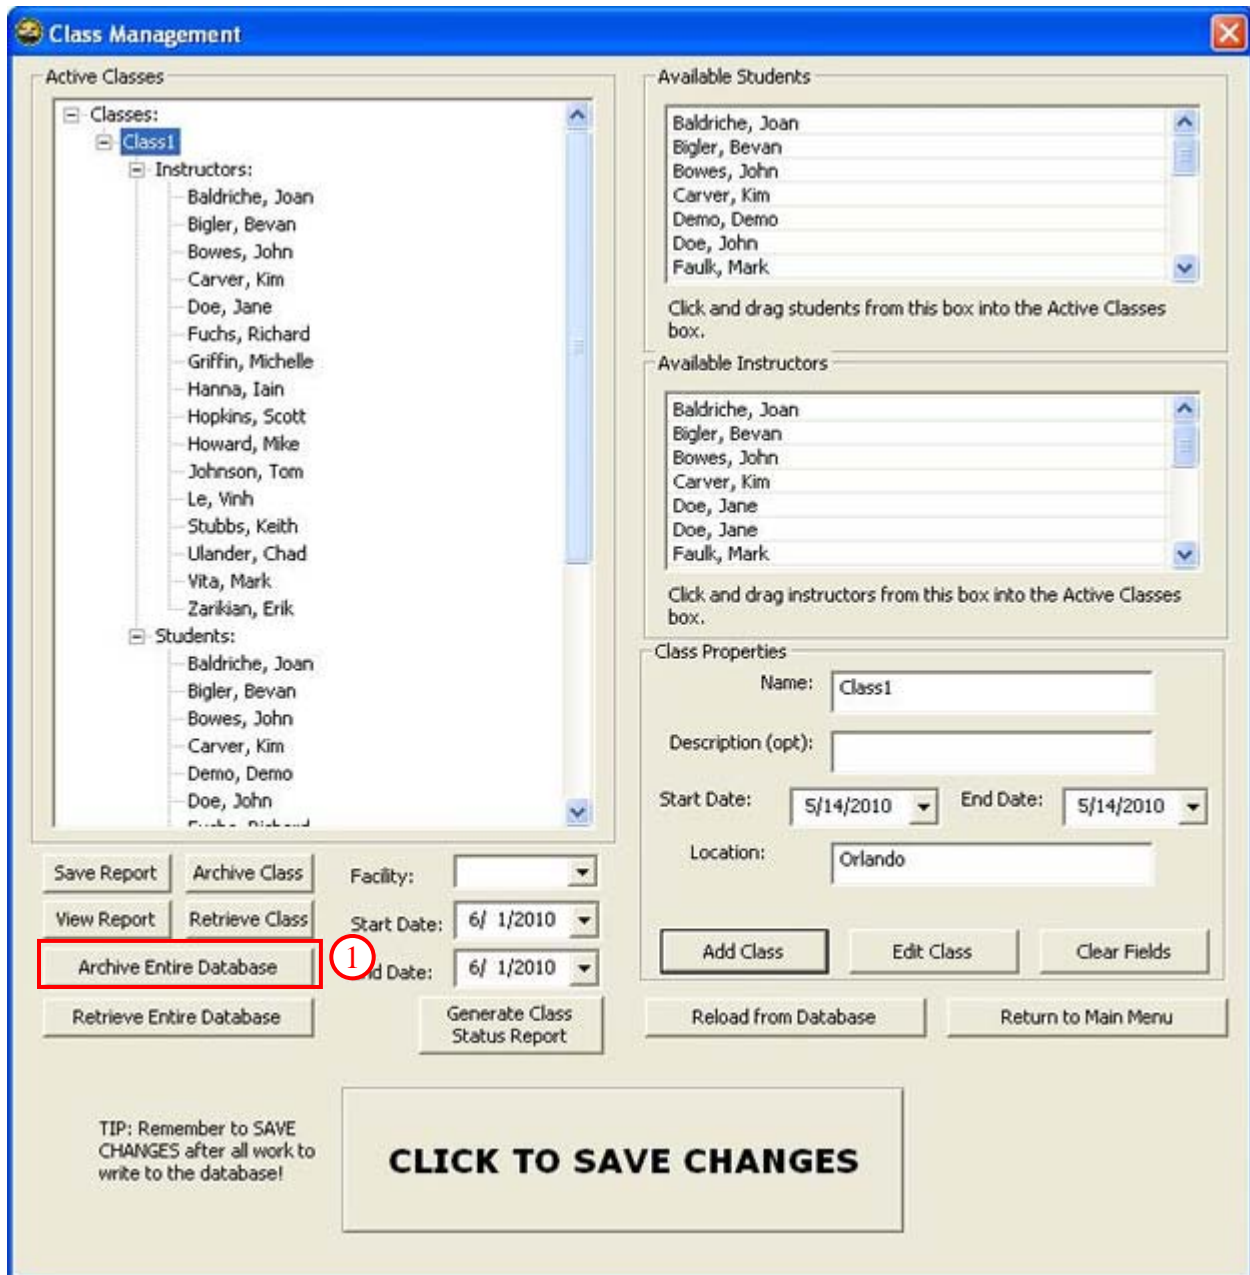

Figure 90. Class Management - Archive Entire Database
1. Click the [ARCHIVE ENTIRE DATABASE] button (Figure 90).